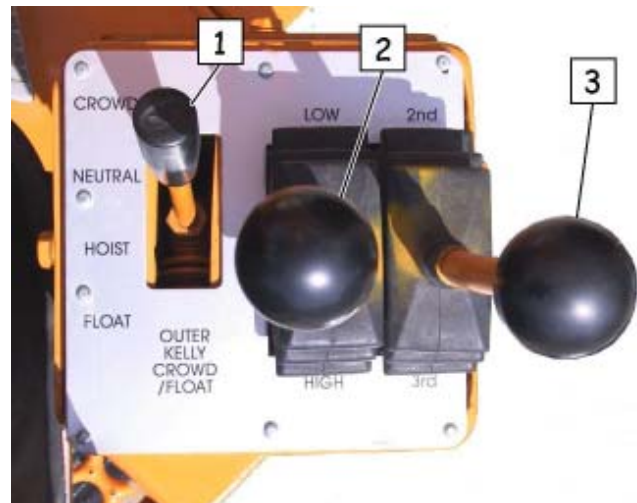
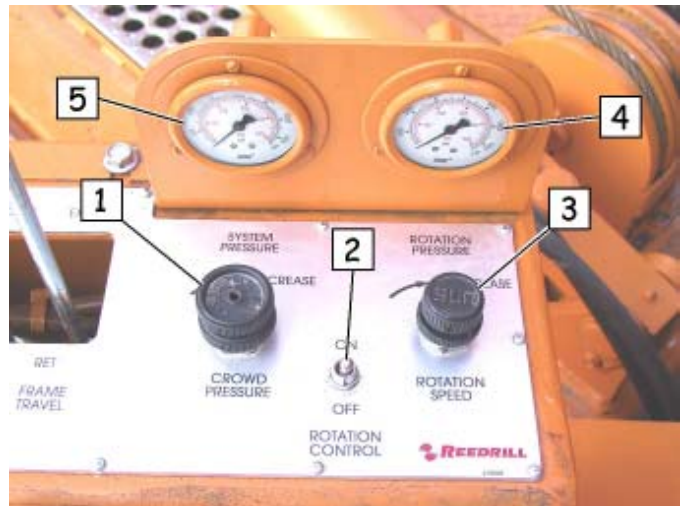

Fig. 4-6 Outer Kelly and Gear Selectors
Fig. 4-7a Main Control Valve Console - Right Side
2. Use the TRANSMISSION GEAR SELECTORS (2 & 3, fig. 4-6) to select the proper gear in which to drill. You can also adjust engine RPM which will change the displacement of the transmission drive motor.
- b. Use the rotation speed control valve (item 3, fig. 4-7a). To activate the valve, turn the rotation control switch (item 2, fig. 4-7a) to ON. Turn the knob CLOCKWISE to INCREASE rotation speed. You can set the rotation speed and not have to keep your foot on the foot pedal. However, you can still use the foot pedal to INCREASE the rotation speed. When the rotation control switch is turned OFF, the rotation control valve is non-functional.
4. Place the OUTER KELLY CONTROL LEVER (1, fig. 4-6) in CROWD position. You can adjust the crowd pressure by turning the knob (item 1, fig. 4-7a) CLOCKWISE to INCREASE pressure or COUNTER-CLOCKWISE to DECREASE pressure. Read the pressure on the system pressure gauge (item 5, fig. 4-7a).
6. Place the OUTER KELLY CONTROL LEVER (1, fig.4-6) in the HOIST position to raise the outer kelly or FLOAT position to raise the outer and inner kelly bars together.